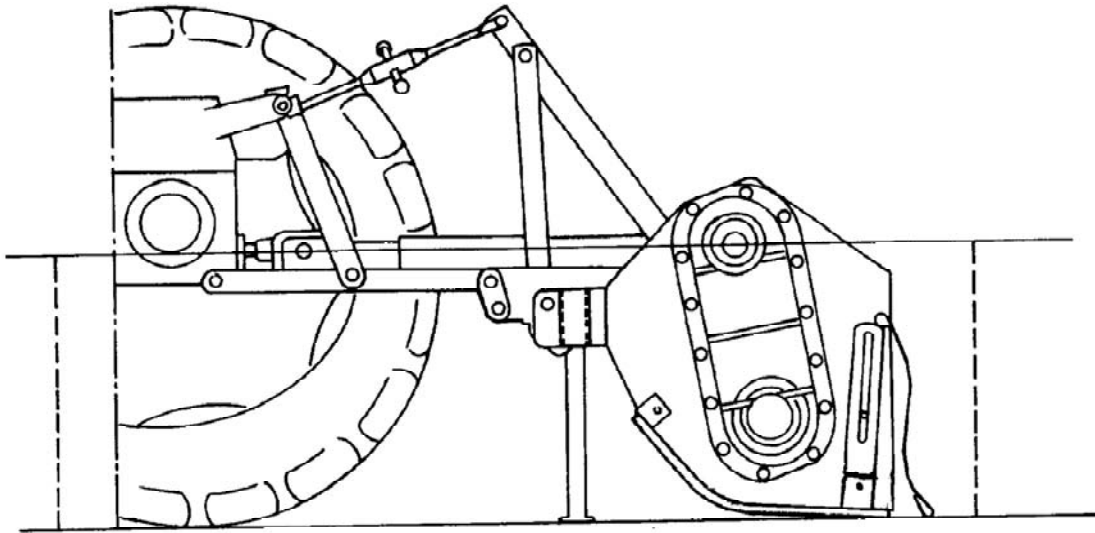

Fig. 13 - Correct work position of the tiller. A 1 to 2 degree rearward tilt is acceptable.
4. Attach the top link. Adjust it so the tiller is as near parallel to the ground as possible. A 1 to 2 degree rearward tilt is acceptable (**see fig. 13**).